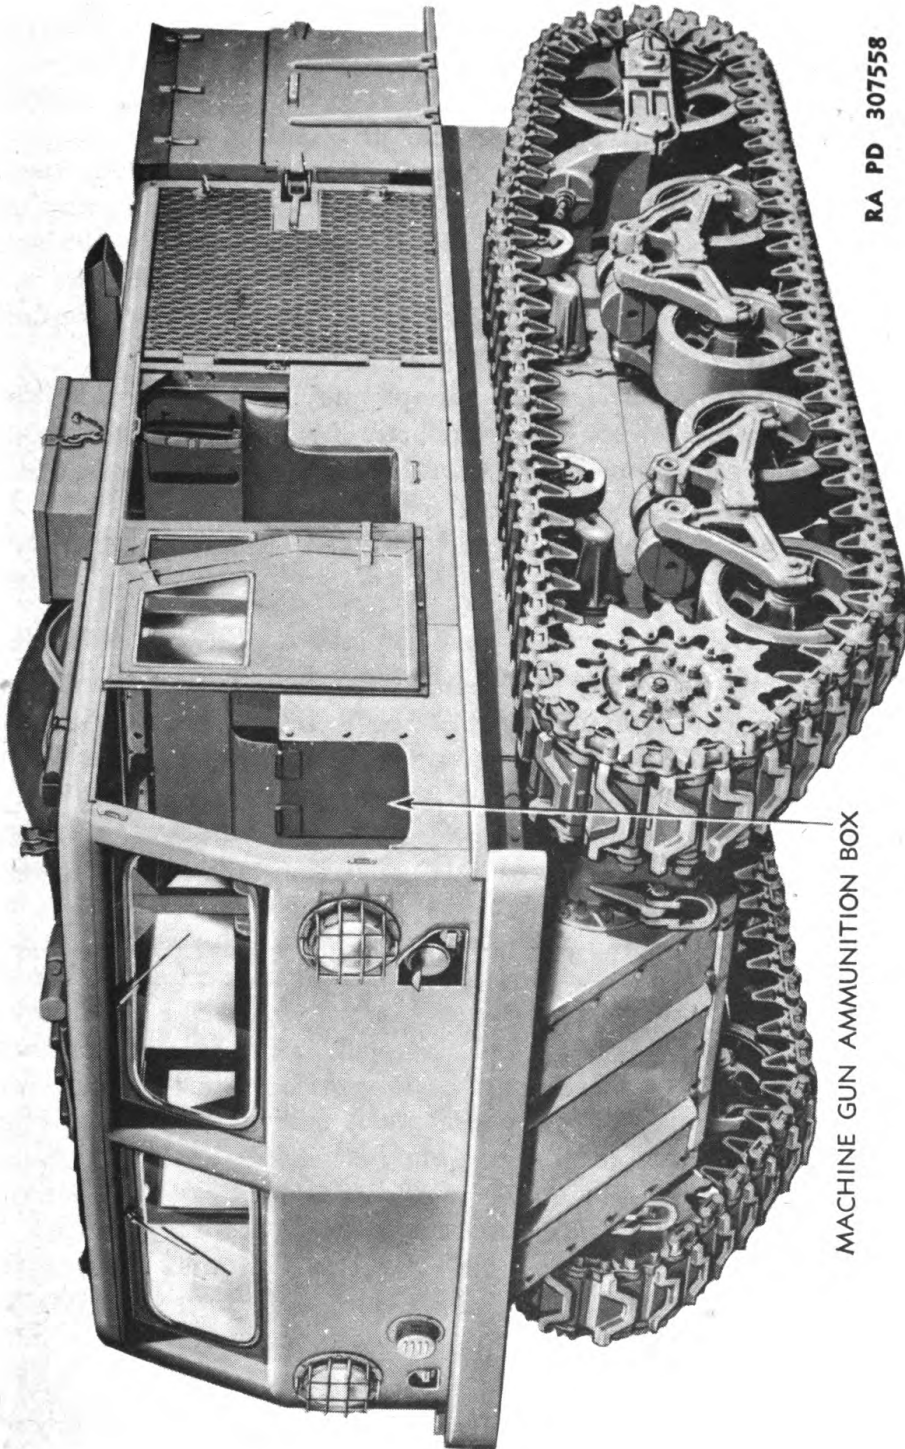

Figure 1 — 18-ton High Speed Tractor M4
a. The instructions contained in this manual are for the information and guidance of personnel charged with the maintenance and repair of the 18-ton High Speed Tractor M4 (fig. 1). These instructions are supplementary to Field and Technical Manuals prepared for the using arms. This manual does not contain information which is intended primarily for the using arms, since such information is available to ordnance maintenance personnel in 100-series Technical Manuals or Field Manuals.